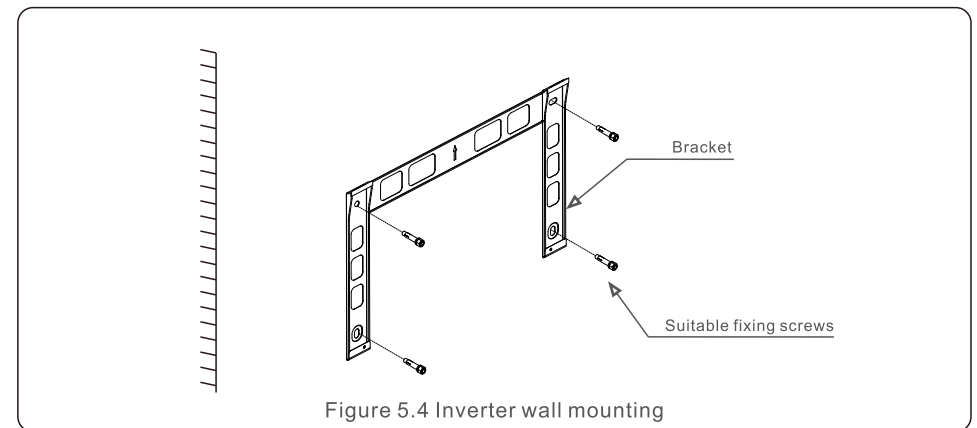
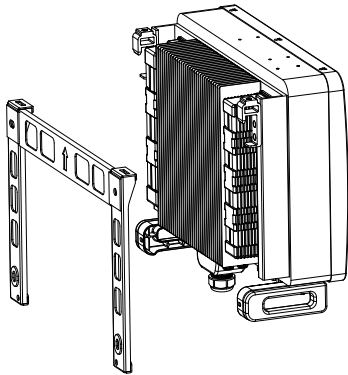

Figure 5.4 Inverter wall mounting
Figure 5.5 Install the inverter
Refer to figure 5.4 and figure 5.5. Inverter shall be mounted vertically. The steps to mount the inverter are listed below.
1. Refer to Figure 5.4, the holes for expansion bolt based on the hole diameter of bracket (M10\*70), using the percussion drilling with the 10mm drill need to stay vertically on the wall. And the drill hole must be vertically on the wall. And all drill holes' depth is 60mm.
2. Make sure the bracket is horizontal. And the mounting holes (in Figure 5.4) are marked correctly. Drill the holes into wall at your marks.